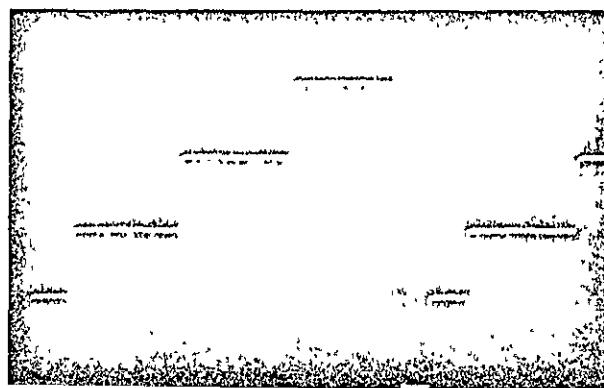

Figure 3-7. INTERLEAVER VID INPUT 3-step test sig
3. Monitor signal at front panel INTERLEAVER VID INPUT test jacks. Set TV signal generator for stairstep (3 steps) output. Adjust composite video for a level of 1.0 V pp (100/28 ratio, 0.22 V pp sync.) Refer to Figure 3-7.